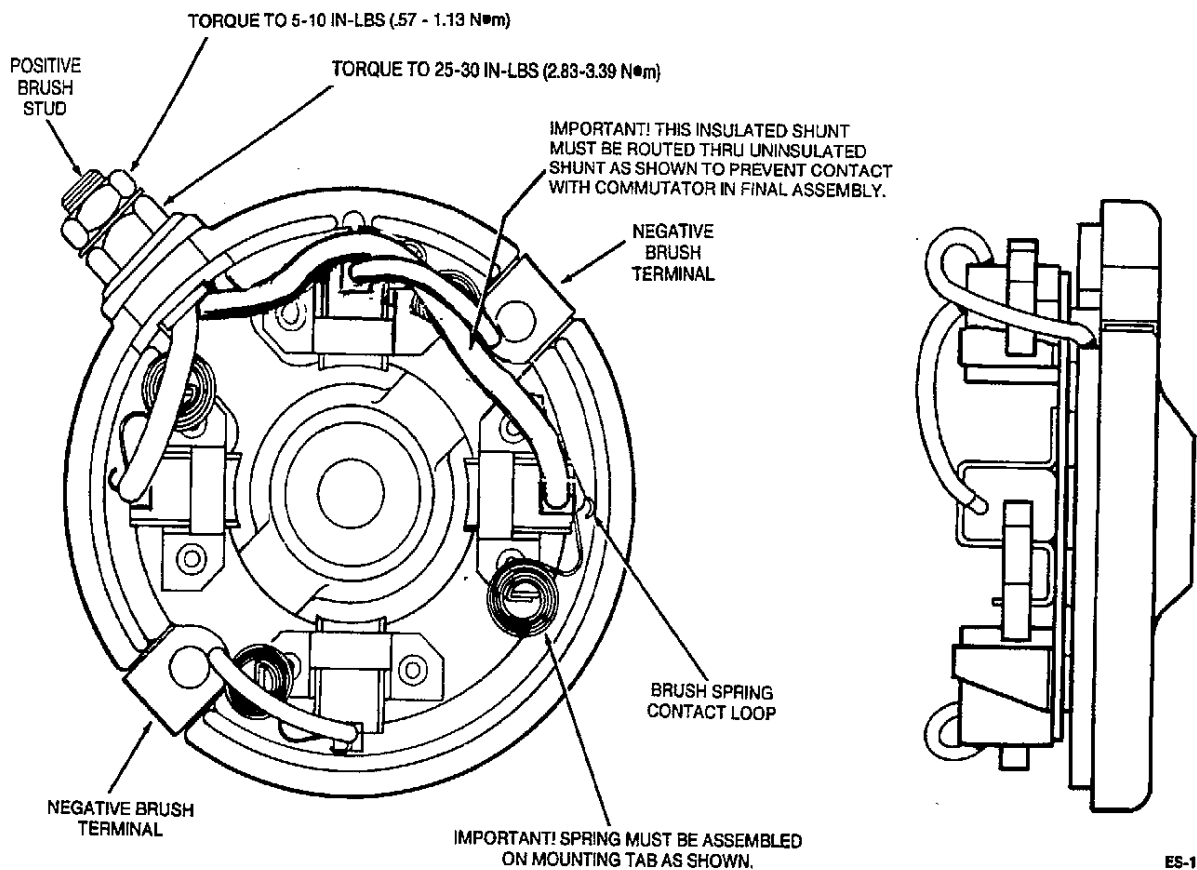

FIGURE 6. BRUSH ENDCAP
2. Mount brush springs on tabs as shown in Figure 6. Using a small screwdriver, turn spring counter-clockwise to torque so contact loop is inside of brush holder. Spring should be pushed down to mounting tab shoulder.